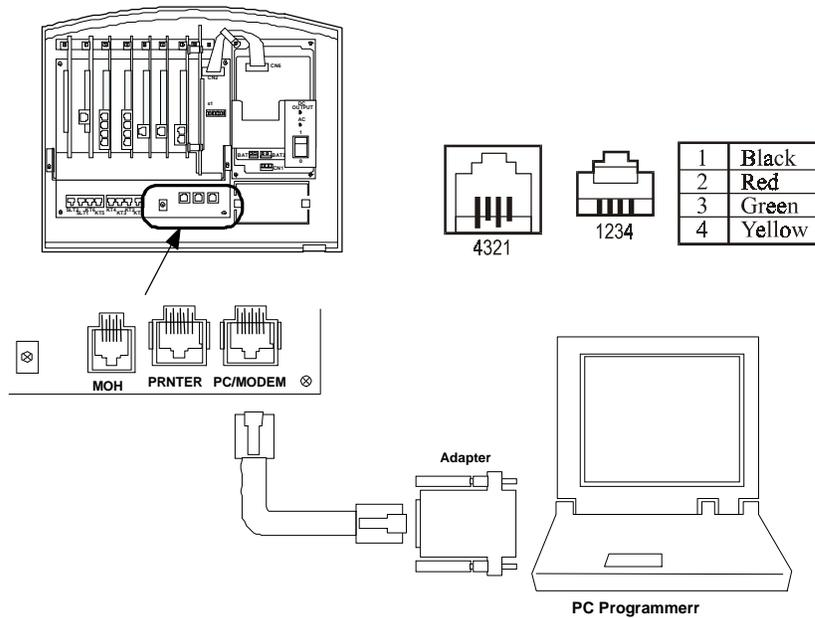

FIGURE 51. ON-SITE PC PROGRAMMING CONNECTION
1. Plug the serial cable into the connector labeled PC/MODEM on the motherboard(VS-MAIN) card as illustrated Figure 51.